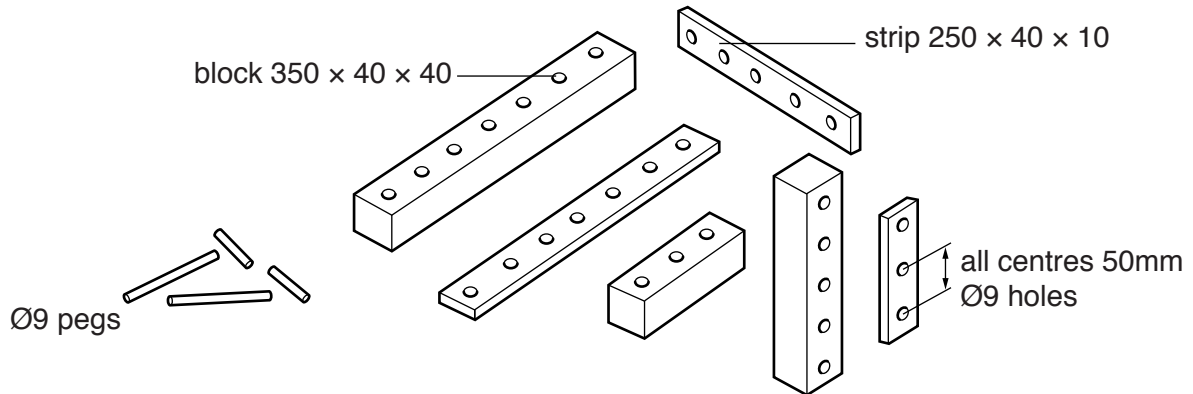

Fig. 7
- 11 Fig. 7 shows details of a variety of wooden shapes and pegs that are part of a child's construction kit. The construction kit will be made in a school workshop.